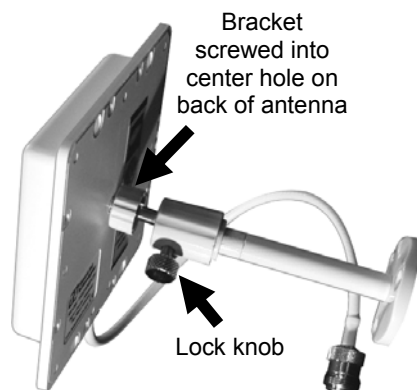

Figure 6. Antenna attached to bracket (shown here with extension rod)
- Screw the center hole on the back of the antenna onto the threaded tip of the bracket, as shown in Figure 6.